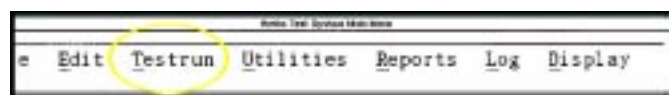

Figure 5
- 103 On the CDTCS computer main screen, click on “Testrun.” See the circle in Figure 5.